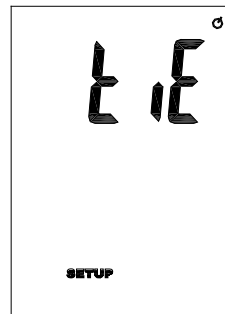

Fig. 3
2. Use the **▲/T1-T2** and **Hold/▼** buttons to scroll to the **time** setting option screen (Fig. 3).